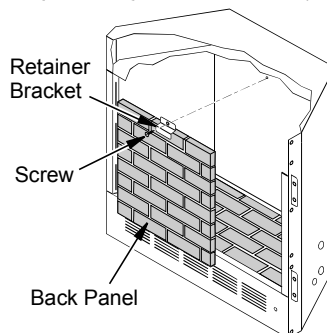

Figure 7 - Removing Back Panel from Firebox
- c. Remove the screw and retainer bracket at the top of the brick liner panel at the rear of the firebox. **IMPORTANT:** Do not let panel fall after bracket has been removed. Carefully remove the rear panel from the firebox (see Figure 7).